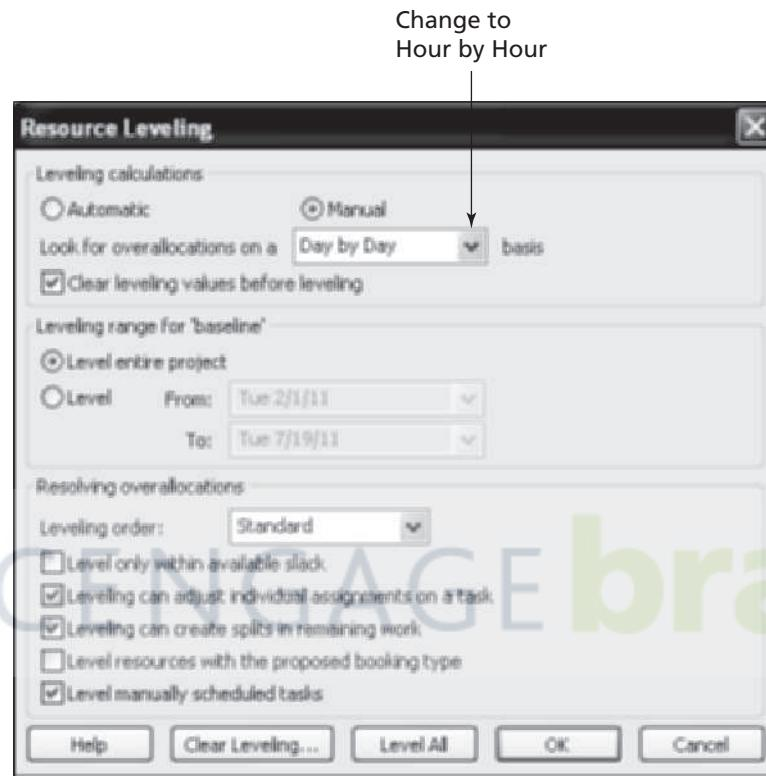

FIGURE A-61 Resource Leveling dialog box
2. *Open the Resource Leveling dialog box.* Click the **Resource** tab, and then click **Leveling Options**. The Level Resources dialog box opens, as shown in Figure A-61.